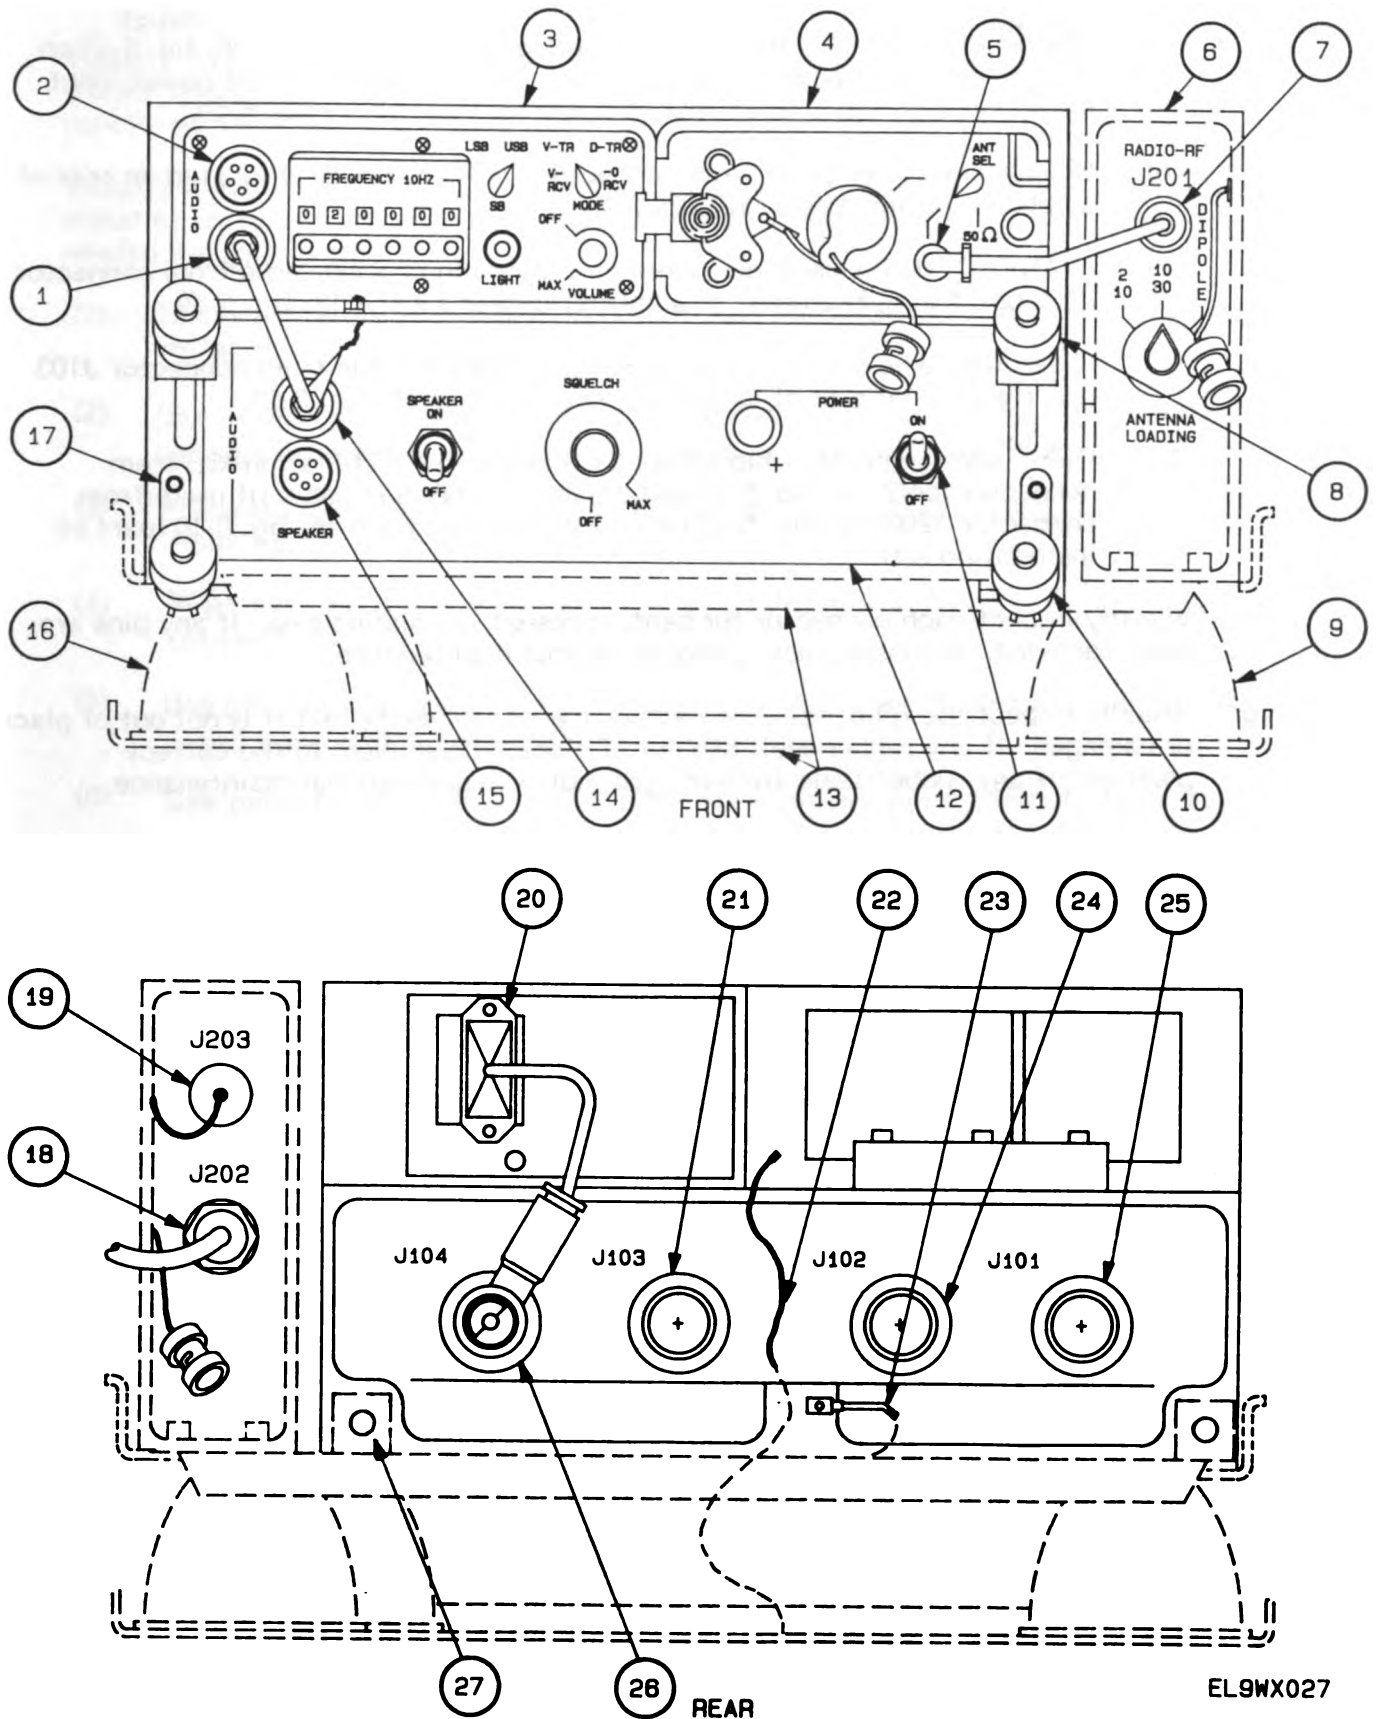

Figure 5-2. Controls and Connectors for Cleaning and Corrosion Control
Sparks may damage power cable or connector J101 (25, fig. 5-2) if POWER circuit breaker on amplifier-power supply is not properly set to OFF in following steps.
- b. Verify POWER circuit breaker (11, fig. 5-2) on amplifier-power supply (12, fig. 5-2) is set to OFF. If necessary, set to OFF.
- c. Remove all dirt, dust, grease, or other debris from AN/GRC-213 and installation kit with a cloth (item 3, Appx E) or brush (item 1, Appx E), and cleaning compound (item 4, Appx E) or soap (item 5, Appx E) and water.
- d. Rinse all equipment with a clean cloth (item 3, Appx E) moistened in clear water.
- (1) Disconnect handset or cw key from upper AUDIO connector (2, fig. 5-2) on receiver/exciter (3, fig. 5-2).
- (2) Disconnect audio cable from lower AUDIO connector (1, fig. 5-2) on receiver/exciter (3, fig. 5-2) and RADIO AUDIO connector (14, fig. 5-2) on amplifier-power supply (12, fig. 5-2).
- (3) Disconnect loudspeaker from SPEAKER AUDIO connector (15, fig. 5-2) on amplifier-power supply (12, fig. 5-2).
- (4) Disconnect rf cable from BNC connector (5, fig. 5-2) on amplifier/coupler (4, fig. 5-2) and RADIO-RF connector J201 (7, fig. 5-2) on switching unit (6, fig. 5-2).
- (5) Disconnect AN/PRC-104 power cable from connector J104 (26, fig. 5-2) on rear of amplifier-power supply (12, fig. 5-2) and AN/PRC-104 power input connector (20, fig. 5-2) on rear of amplifier/coupler (4, fig. 5-2).
- (6) Disconnect power cable from connector J101 (25, fig. 5-2) located on rear of amplifier-power supply (12, fig. 5-2).
- (7) If AN/VIC-1(V) is used, disconnect intercommunication cable from connector J102 (24, fig. 5-2) on rear of amplifier-power supply (12, fig. 5-2).
- (8) If parallel radio set is used, disconnect its power cable from connector J103 (21, fig. 5-2) on rear of amplifier-power supply (12, fig. 5-2).
- (9) Disconnect vehicular whip antenna cable (part of installation kit) from connector J202 (18, fig. 5-2) and dipole rf or NVIS rf cable (if used) from connector J203 (19, fig. 5-2) on rear of switching unit (6, fig. 5-2) (part of installation kit).
- (1) Disconnect quick-release ground connectors (22 and 23, fig. 5-2), located on rear of amplifier-power supply (12, fig. 5-2), from mounting base (13, fig. 5-2).
- (2) Pull out, loosen, and disengage fasteners (10, fig. 5-2) from hooks (17, fig. 5-2) located on front of amplifier-power supply (12, fig. 5-2).
- (3) Slide amplifier-power supply (12, fig. 5-2) forward until it clears the guide pin assemblies (27, fig. 5-2) and lift amplifier-power supply with latched receiver/exciter (3, fig. 5-2) and amplifier/coupler (4, fig. 5-2) free of mounting base (13, fig. 5-2).
- (4) Pull out and loosen fasteners (8, fig. 5-2) from hooks located on front of receiver/exciter (3, fig. 5-2) and amplifier/coupler (4, fig. 5-2) until fasteners can be disengaged from hooks.
- (5) Slide latched receiver/exciter (3, fig. 5-2) and amplifier/coupler (4, fig. 5-2) units forward to disengage retaining cleats and lift from amplifier-power supply (12, fig. 5-2).
- (6) Lay latched receiver/exciter (3, fig. 5-2) and amplifier/coupler (4, fig. 5-2) on a flat surface and unfasten front and rear latches, respectively, securing the receiver/exciter and amplifier/coupler together.
- (7) Carefully separate receiver/exciter (3, fig. 5-2) and amplifier/coupler (4, fig. 5-2).
- k. Dry components and remove water from inside of each connector with an airjet (if available) or dry cloth (item 3, Appx E).
- l. Inspect the mounting base (13, fig. 5-2) shock mounts (9 and 16, fig. 5-2) for wear by moving mount and looking for excessive free play. If shock mounts are worn, notify organizational maintenance.
- (1) Secure amplifier/coupler (4, fig. 5-2) to receiver/exciter (3, fig. 5-2) and fasten latches.
- (2) Place latched receiver/exciter (3, fig. 5-2) and amplifier/coupler (4, fig. 5-2) on top of amplifier/power supply (12, fig. 5-2).
- (3) Slide latched units toward rear of amplifier-power supply (12, fig. 5-2) until receiver/exciter (3, fig. 5-2) and amplifier/coupler (4, fig. 5-2) fully engage retaining cleats on amplifier-power supply (12, fig. 5-2).
- (4) Tighten fasteners (8, fig. 5-2) over hooks located on front of receiver/exciter (3, fig. 5-2) and amplifier/coupler (4, fig. 5-2) until both units are securely attached to top of amplifier-power supply (12, fig. 5-2).
- (5) Slide amplifier-power supply (12, fig. 5-2) with latched receiver/exciter (3, fig. 5-2) and amplifier/coupler (4, fig. 5-2) onto mounting base (13, fig. 5-2). Rear of amplifier-power supply will be toward rear of mounting base. Slide amplifier-power supply straight back until it is fully seated against guide pin assembly (27, fig. 5-2) located on mounting base.
- (6) Tighten fasteners (10, fig. 5-2) over hooks (17, fig. 5-2) until amplifier-power supply (12, fig. 5-2) is securely attached to mounting base (13, fig. 5-2).
- (7) Connect quick-release ground connectors (22 and 23, fig. 5-2), located on rear of amplifier-power supply (12, fig. 5-2) and receiver/exciter (3, fig. 5-2), to mounting base (13, fig. 5-2).
- (8) Connect vehicular whip antenna cable to connector J202 (18, fig. 5-2) and dipole rf or NVIS rf cable (if used) to connector J203 (19, fig. 5-2) on rear of switching unit (6, fig. 5-2).